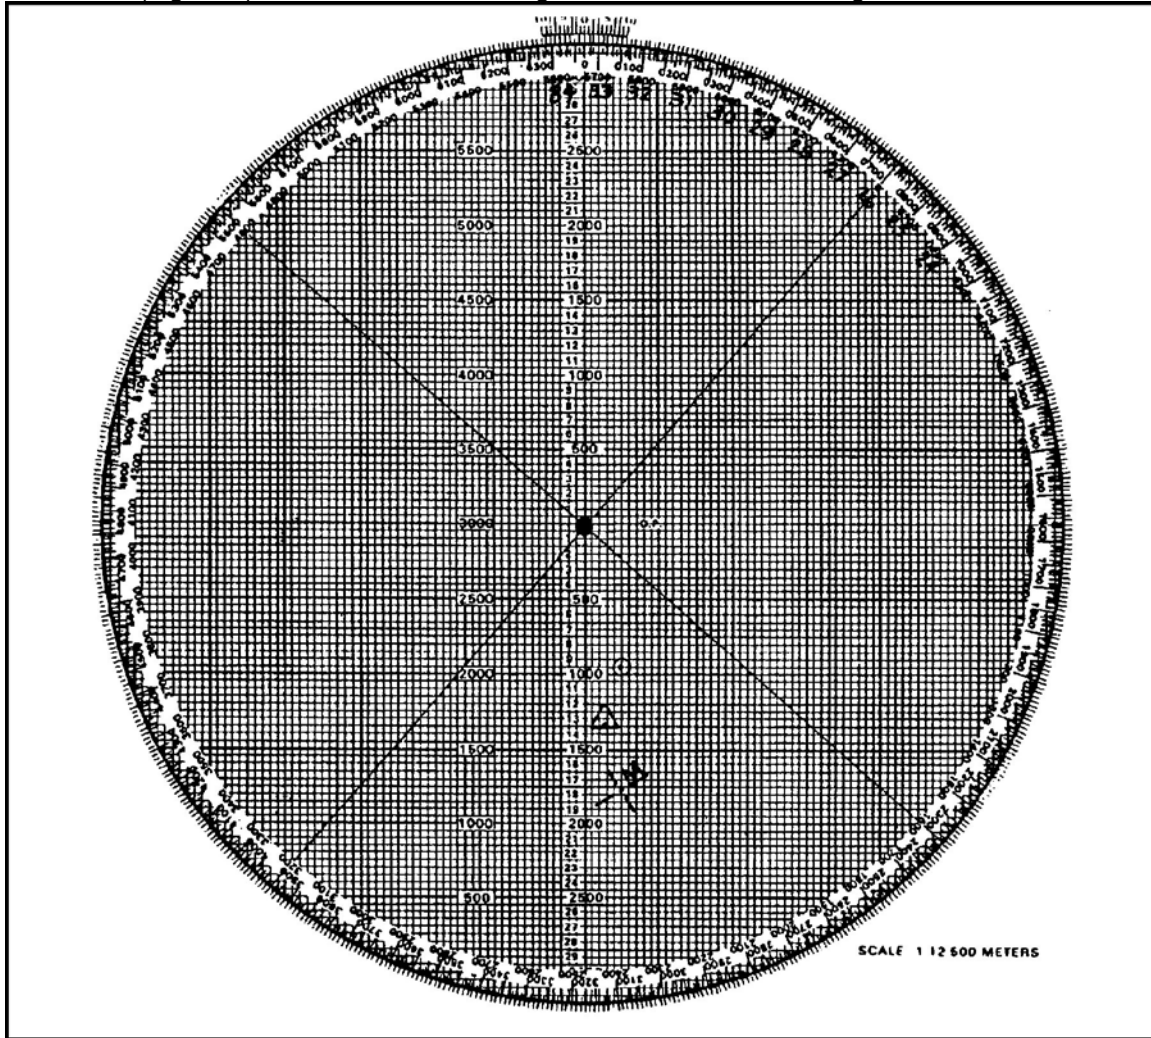

Figure 2. Target location.
- (1) Using the target location given in the call for fire, the computer plots the target location (Figure 2) and determines the range and deflection to the target.